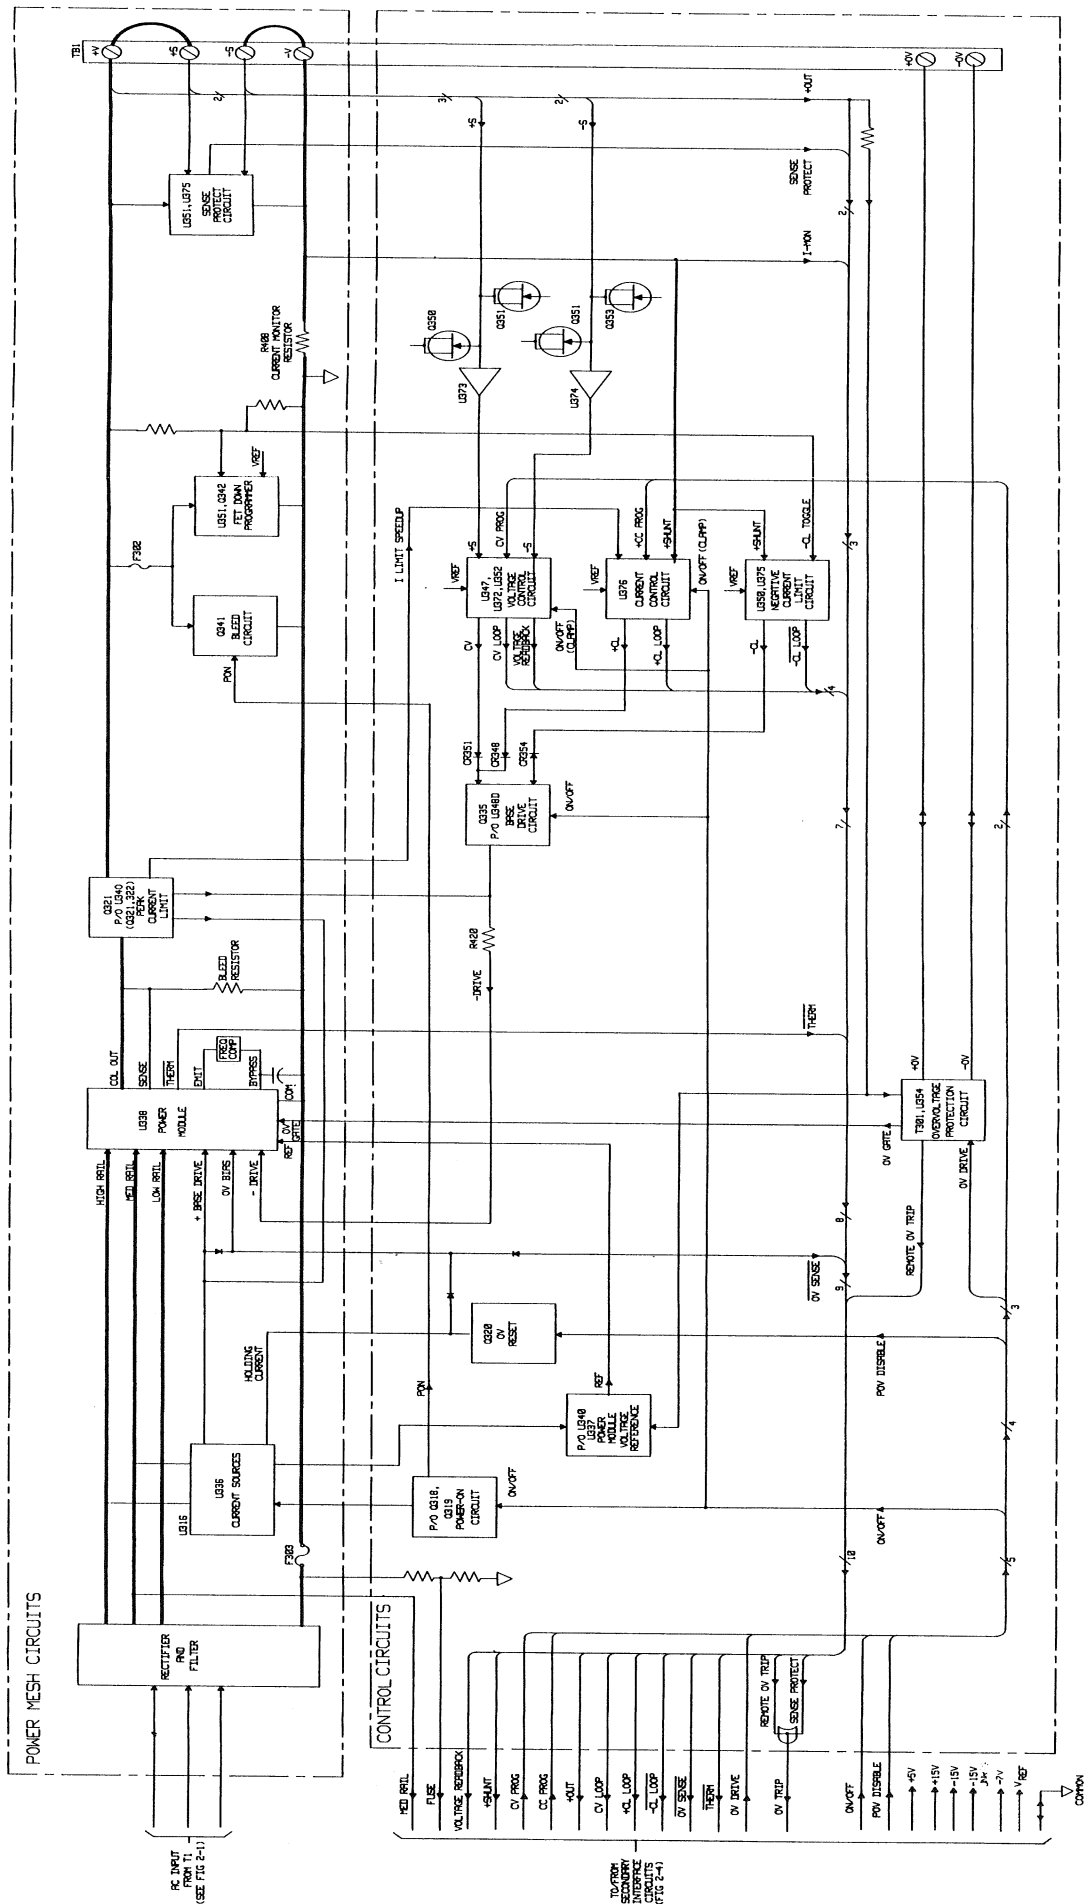

Figure 2-5. Output Board, Power Mesh and Control Circuits, Block Diagram
Status Monitor – this circuit consists of comparators to monitor the control loops, logic to decode these input line, and flip-flops to catch and hold changes. The inputs to the status comparators are the CV LOOP, + CL LOOP, and - CL LOOP signals from the power control circuits (see Figure 2-5). The outputs of the comparators are combined in logic circuits which then go into the set inputs of flip-flops which hold the status of CVO, + CLO, - CLO, and UNREG outputs. UNREG is decoded if the output is not regulated by a CV or CL control loop.
The status monitor circuit also receives OV SENSE and THERM inputs. The THERM signal is received from the power module(s) in the power mesh (see Figure 2-5) and indicates when an overtemperature condition exists. Note that when the microcomputer senses the overtemperature (OT) condition via data bus line D4, it shuts down the output. This circuit resets automatically and restores the output approximately 30 seconds after the temperature drops sufficiently for safe operation.
2-37 Power Mesh and Control Circuits (Figure 2-5)
The power mesh circuit in the upper half of Figure 2-5 converts the AC from the power transformer to regulated DC output power. The primary power control element is the power module hybrid (U338). The power mesh circuit generates a constant voltage or constant current output under control of the control circuits shown in the lower half of Figure 2-5. In addition to controlling the power mesh circuit, the control circuits send measurement and status data back to the GPIB controller and/or front panel via the interface circuits on the output board and the GPIB board.
The current control circuit receives an input from peak current limit circuit (in the current sourcing mode only) as shown in figure 2-5. When the peak current limit circuit (see paragraph 2-42) is activated, it immediately limits the conduction of the series regulators in the power module.